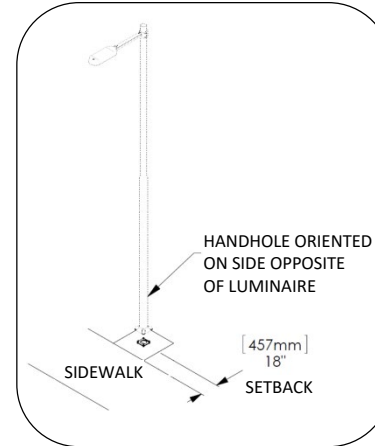

Fig. 1 – Sidewalk setback
1. Lift the light pole into position over the installed anchors (refer to Candela anchor kit installation guide) as shown in Fig. 1. Ensure that the base plate is resting on all four washers.